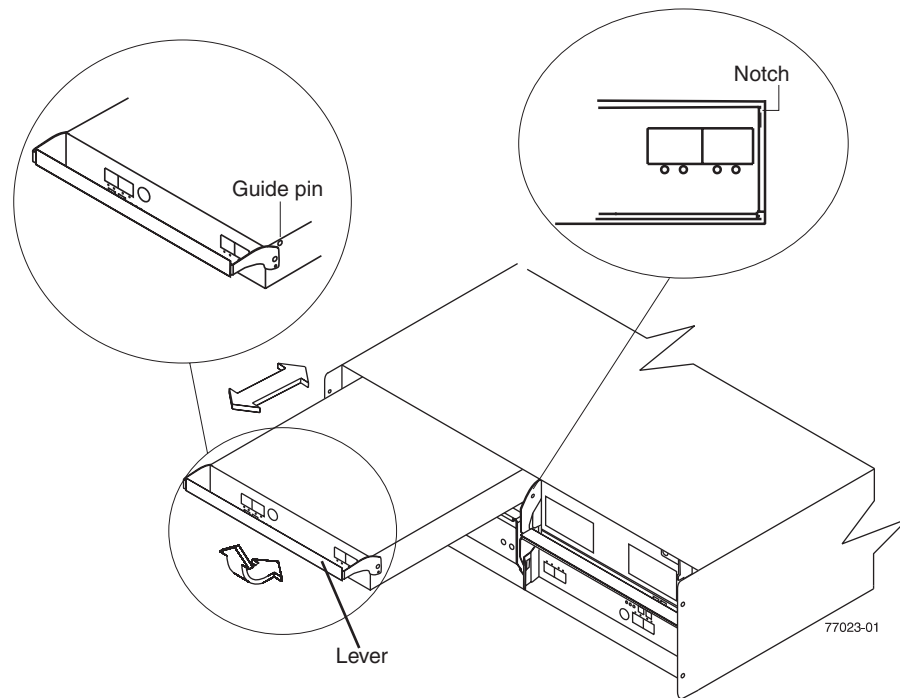

Figure 62. Removing and replacing an Environmental Service Module (ESM)
8. While squeezing the latch, pull the lever open 90° (so that the lever is horizontal). Pull the lever away from the chassis to remove the ESM from the EXP810 midplane, as shown in Figure 62 on page 125.